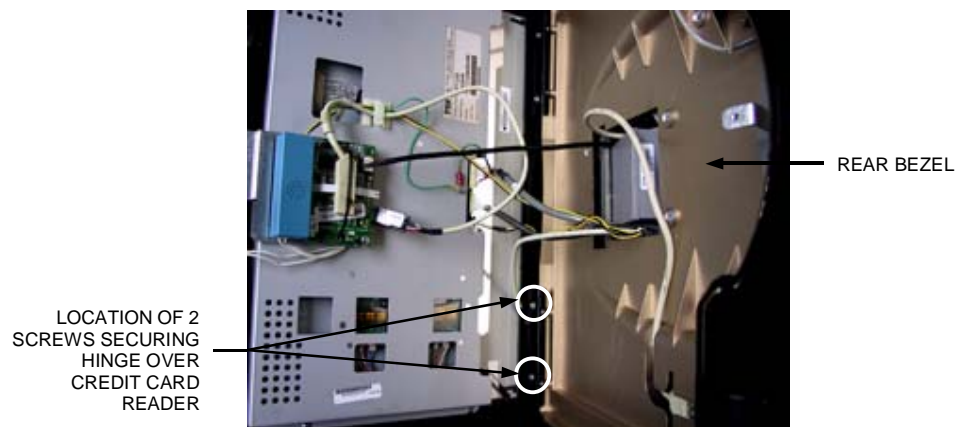

FIGURE 5 - TOP VIEW OF OPEN MONITOR ASSEMBLY
7. Remove the 2 screws that secure the monitor hinge to the front bezel on the same side of the system where the credit card reader is located (see Figure 5) , then flip the bottom of this hinge up to gain access to the 2 screws securing the credit card reader.
3. Fold the monitor hinge back into place over the credit card reader, and secure it with the same two screws you removed earlier (see Figure 5).